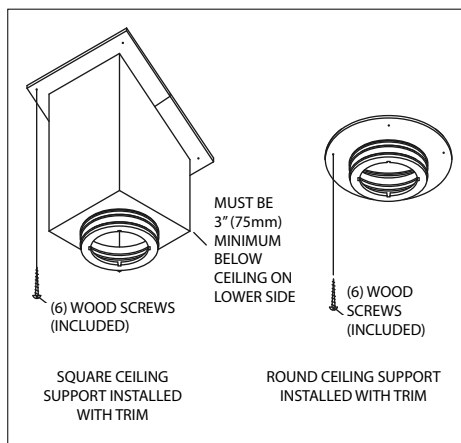

Figure 6
3. Install Support: For installation into a flat ceiling, you may use a Square Ceiling Support Box, a Round Ceiling Support Box, a Reduced Clearance Support Box, or the CAS Ceiling Support. **Note:** each of the Ceiling Supports act as a firestop at the ceiling level; an additional firestop is not needed at that level. Each Ceiling Support can support a maximum of 40-feet (12.2 m) of chimney. The CAS Ceiling Support is only used when installing the CAS system. Refer to the DuraPlus HTC CAS Installation Instructions for directions on how to install the remainder of the Combustion Air System. For the Square Ceiling Support Box, refer to the cathedral ceiling installation below. The bottom of the Round Ceiling Support must extend at least 3 inches (75 mm) below the finished ceiling. Level the Ceiling Support and secure it to the framing using at least three 8-penny nails per side (min. of 12 total). Alternatively, you may use 1-1/2" #8 wood screws (min. of 12 total), instead of nails. Next, secure the two-piece Trim Collar to the framing members using the (6) 1-1/4" long, round-head wood screws provided (**Fig 6**).
members using the (6) 1-1/4" long, round head wood screws provided (**see Fig 6**).
IMPORTANT: the Guide Rails are only used to help install the Support Box level and are not used to help support the weight of the chimney installation. Screw the trim sections into the ceiling (**Fig 6**).